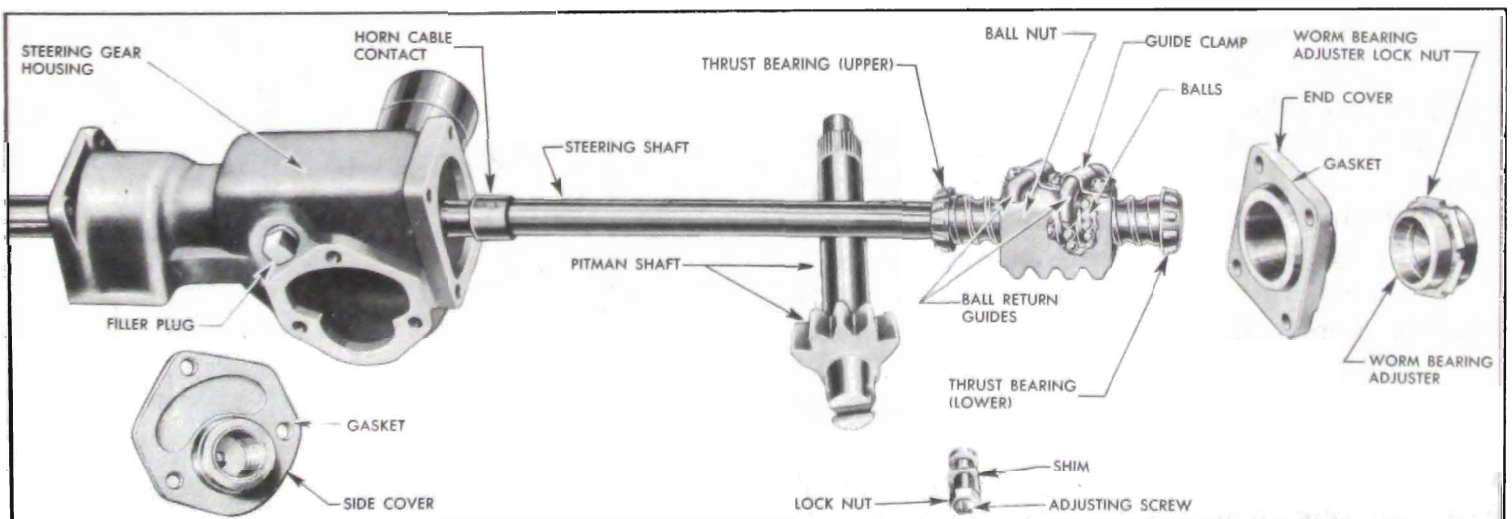

Figure 7-13—Steering Gear Assembly—Exploded View
5. Loosen adjusting screw lock nut, then remove housing side cover with pitman shaft attached. Remove gasket. Separate pitman shaft from side cover by unscrewing the adjusting screw. (See figure 7-13.)